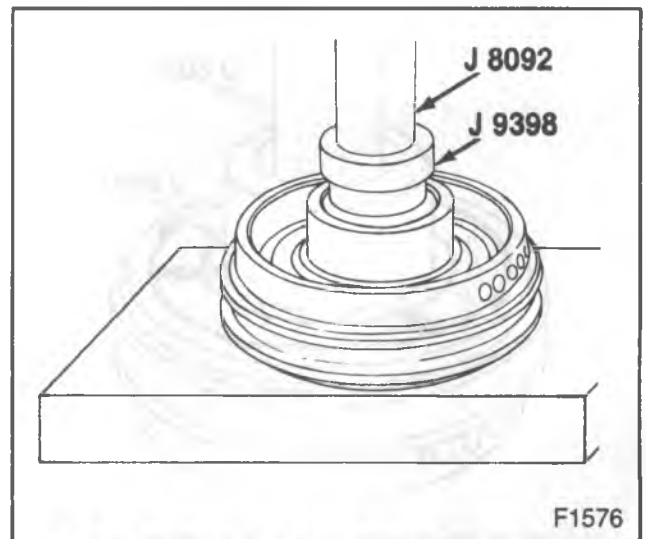
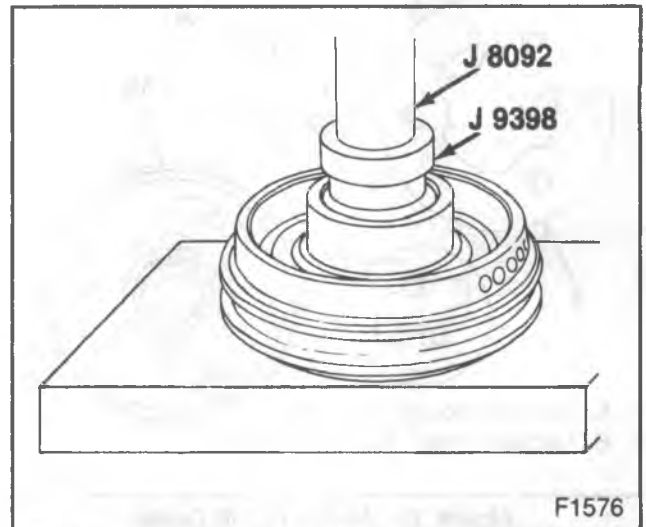

Figure 8—Removing the Pulley and Bearing Retainer Ring
Figure 9—Removing the Bearing from the Pulley
4. Bearing (5) from the pulley (6) (figure 8).
- Remove the retaining ring (3).
- Pulley (6) to J 21352 (figure 9).